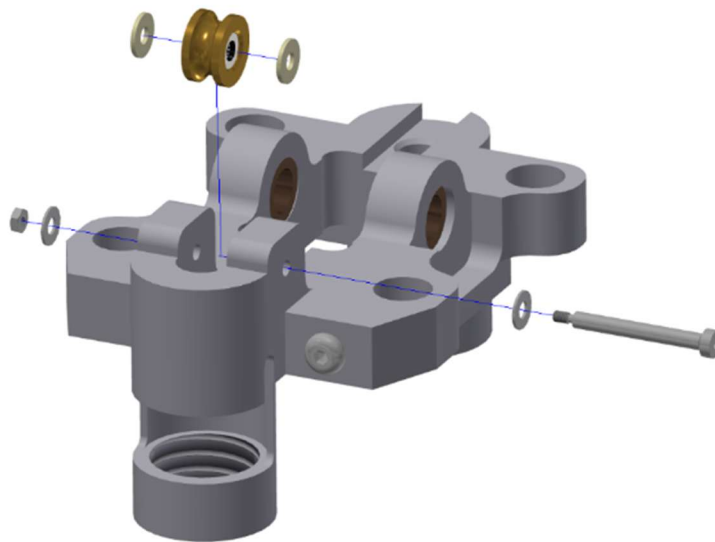

Figure 4-18. Remove the rear cable pulley assembly (474-2308) by removing the M3 X 25 LG. SHSS SS with the M2 X 0.4 Hex nut SS
- 4.2.9 Remove spring tower load cells from the head/neck mounting platform (474-2302-A) (Figure 2-20). Remove the rear cable pulley assembly (474-2308) by removing the M3 X 25 LG. SHSS SS with the M2 X 0.4 Hex nut SS (Figure 4-18).